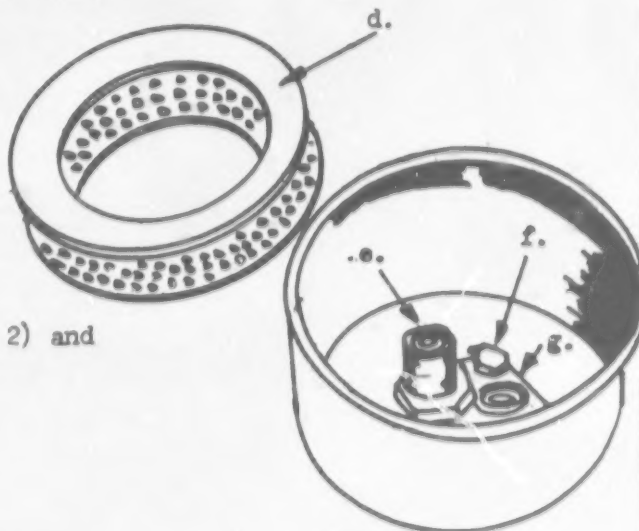

Figure 2
STEP 4. Remove filter element (Item d in Figure 2).
STEP 6. Remove return stud from the body assembly (Item e in Figure 2).
STEP 7. Remove reservoir to body mounting screws and lock washers (Item f in Figure 2).
STEP 8. Remove the reinforcement plate (Item g in Figure 2) and reservoir.